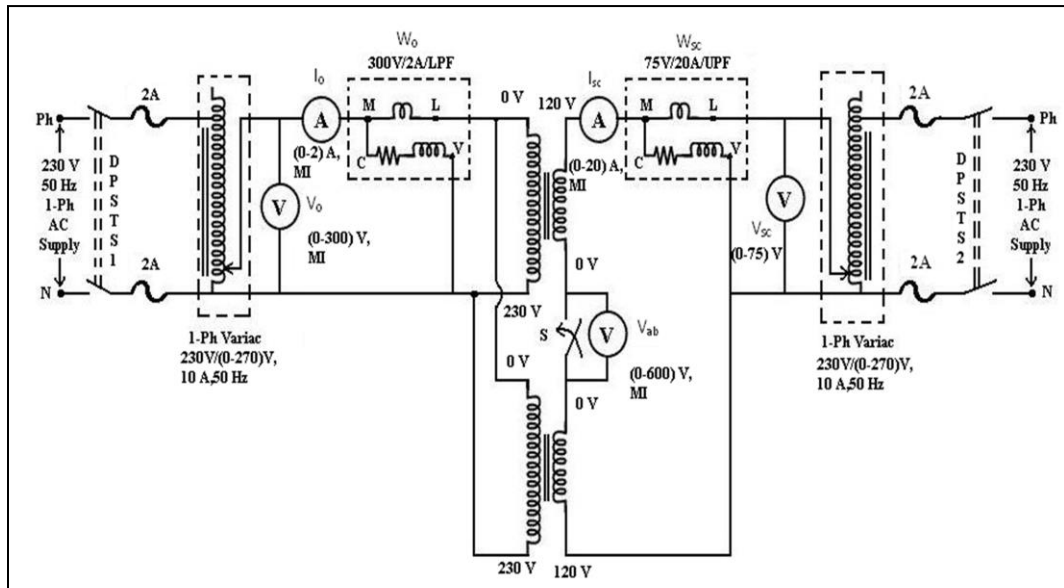

Fig 6.1: Circuit diagram for sumpner's test
1. Connect the circuit as per the fig 6.1.